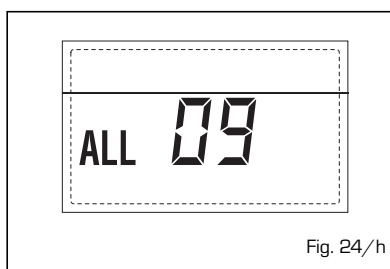

Fig. 24/h
**- AUXILIARY SENSOR ANOMALY ALARM 10 (fig. 24/l)**
**BOILER WITH ACCUMULATION:** anomaly D.H.W. sensor (SB). When the D.H.W. sensor is open or short circuited, the display will show anomaly "ALL 10". The boiler will function but will not modulate power for D.H.W.